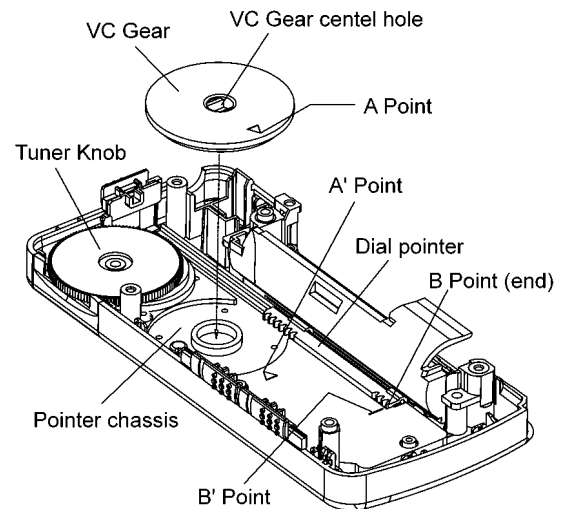

Fig.1
- 2.Align dial pointer (B point to B' point). (as Fig.1.)